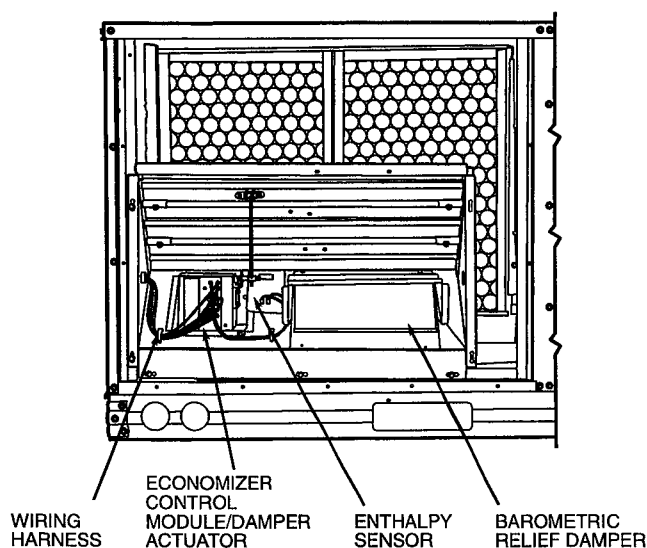

Fig. 20 — PARABLADE Economizer Installed in Unit
4. Slide economizer into unit and secure with screws. See Fig. 20.
5. Insert economizer plug into economizer harness. Remove tape from barometric relief damper. See Fig. 20.